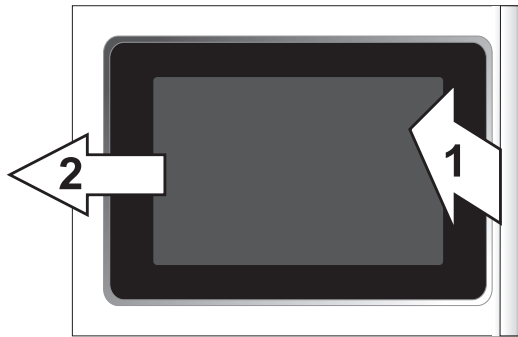

Figure 12
- 6.3.2. To remove the outer door assembly, lift lightly the handle side about 30°. Slide the outer door assembly out of the door hinges (Figure 12).